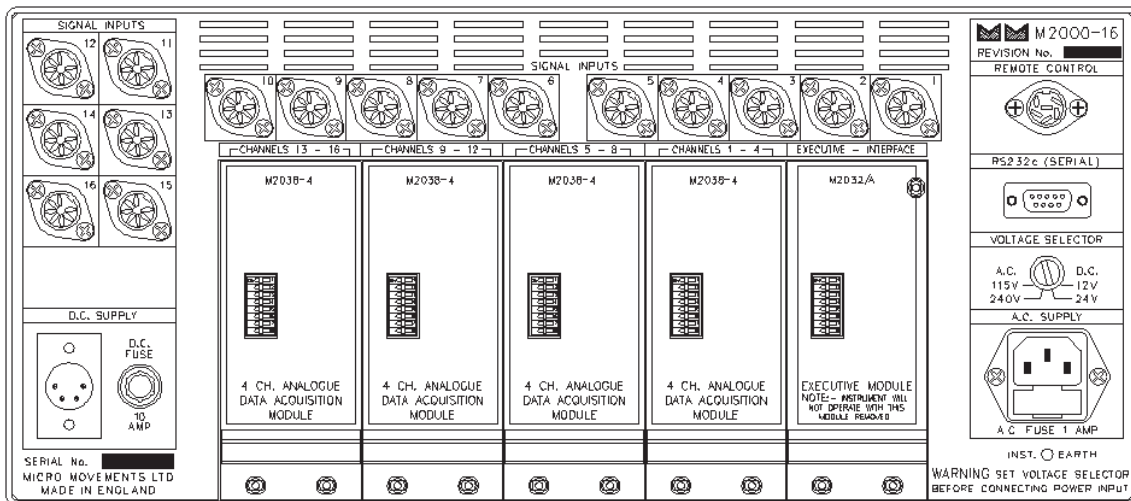

Figure 3-1 Rear View of M2000 Recorder (shown with A6 inverter).
- The recorder must always be mounted on a secure flat surface, with sufficient space left at the rear, so that cooling air can escape from the vents, which are below the signal connection points. (see Figure 3-1)